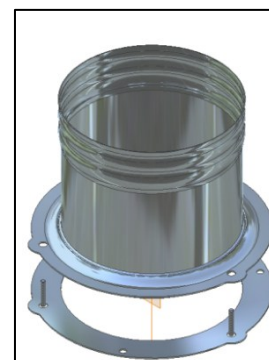

Figure 3-8: 6CON Liner Connector
The Elegance 40 fireplace can be connected to a masonry chimney that complies with current national and municipal building codes. A 6 inch chimney liner that complies with ULC S635 M2000 (Canada) or UL 1777 (US) standards must be installed within the existing masonry chimney. Note that the 6CON connector (manufactured by SUPREME FIREPLACES INC.) must be installed to connect the prefabricated chimney to the liner (6CON sold separately). Refer to figure 3-8.